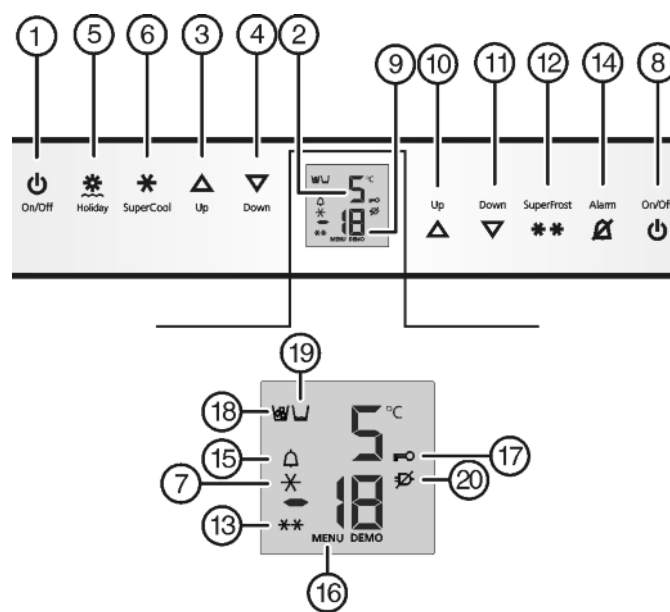

Fig. 2
- Press On/Off button, freezer compartment *Fig. 2 (8)*.
- Press On/Off button, refrigerator compartment *Fig. 2 (1)*.
- To activate the setting mode: press SuperFrost button *Fig. 2 (12)* for about 5 s.
- ▷ The menu symbol *Fig. 2 (16)* shines.
- Briefly press the SuperFrost button *Fig. 2 (12)* to confirm.
- To activate the child lock, briefly press the SuperFrost button *Fig. 2 (12)*.
- ▷ The child lock symbol *Fig. 2 (17)* shines. **c** flashes in the display.
- To deactivate the child lock, briefly press the SuperFrost button *Fig. 2 (12)*.
- ▷ The child lock symbol *Fig. 2 (17)* goes out. **c** flashes in the display.
- To deactivate the set-up mode: press On/Off button, freezer compartment *Fig. 2 (8)*.
- Press alarm button *Fig. 2 (14)*.
The temperature display and the alarm symbol *Fig. 2 (15)* flash at the same time.
The audible alarm is automatically silenced, the alarm symbol *Fig. 2 (15)* goes out and the temperature display stops flashing when the temperature is sufficiently cold again.
- ▶ Press alarm button *Fig. 2 (14)*.